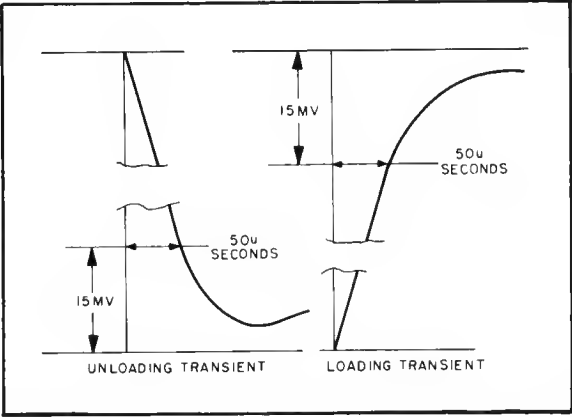

Figure 5-6. Transient Recovery Time, Waveforms.
- Starting from the major graticule division representative of time zero, count to the right 50 μsec and vertically 15 mV. Recovery should be within these tolerances as illustrated in Figure 5-6.